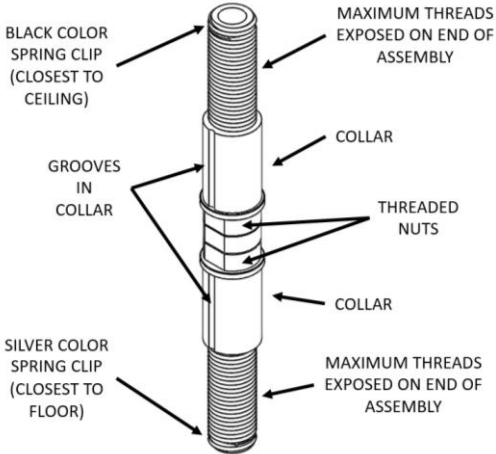
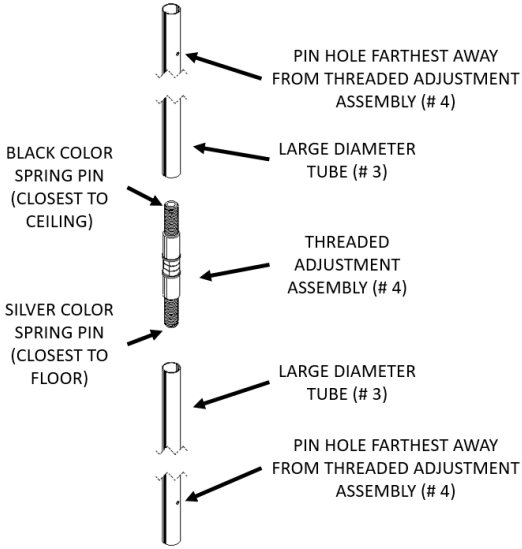

FIGURE 2
FIGURE 3
2. The THREADED ADJUSTMENT ASSEMBLY (# 4) must look like Figure 2 before starting. The maximum amount of threads should be exposed at the ends of the assembly. **NOTE:** There is a Black color spring clip and Silver colored spring clip on the THREADED ADJUSTMENT ASSEMBLY.
3. **IMPORTANT:** Position both LARGE DIAMETER TUBES (# 3) with the pin holes farthest away from the THREADED ADJUSTMENT ASSEMBLY (# 4) as shown in Figure 3.
in Figure 2 and Figure 3. **IMPORTANT:** Make sure the orientation of the Black color spring clip is closest to the ceiling. For orientation purposes, it may be helpful to mark or place a piece of tape on the LARGE DIAMETER TUBE (# 3) that houses the Black color spring pin for the following assembly procedures.